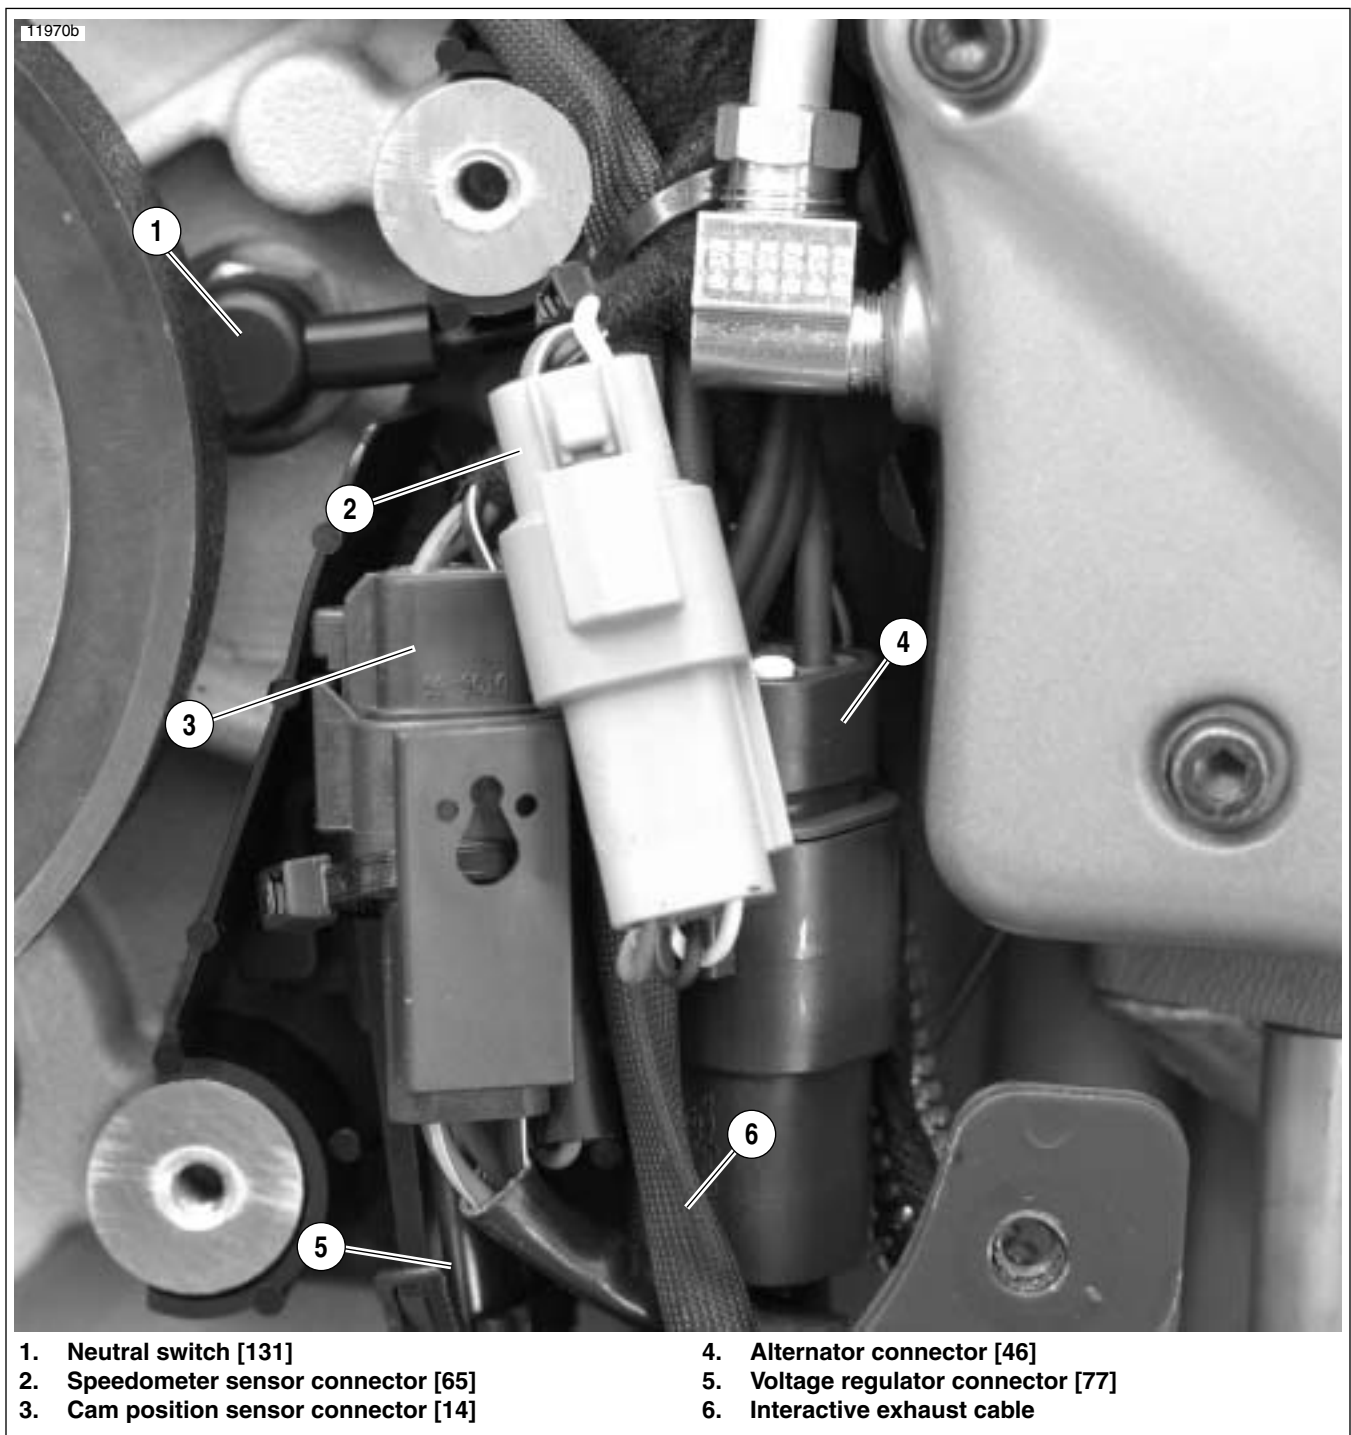

Figure 3-18. Electrical Connectors Under Sprocket Cover
20. See Figure 3-18. Disconnect electrical components: